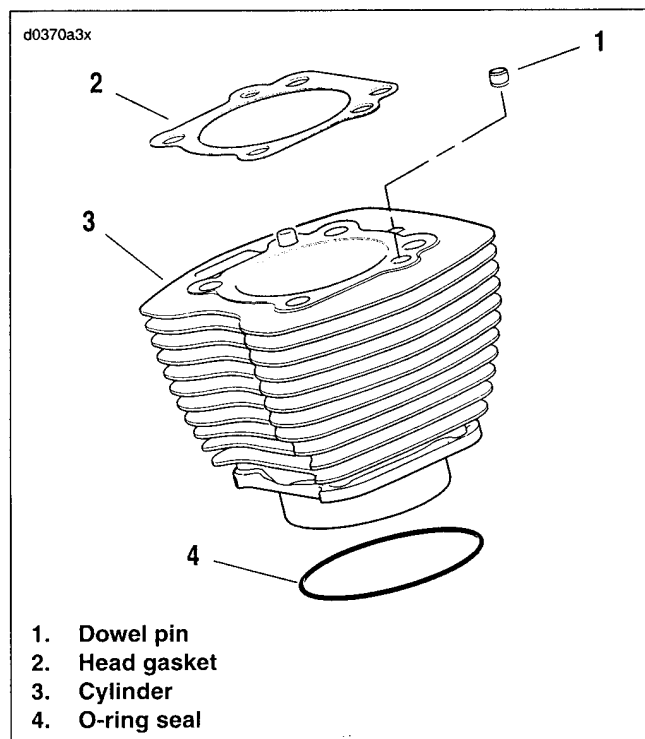

Figure 3-26. Cylinder Assembly
- See Figure 3-26. Remove cylinder head and head gasket (2). Discard gasket.
- See Figure 3-26. Remove O-ring seal (4) from the bottom of the cylinder liner. Discard O-ring seal.